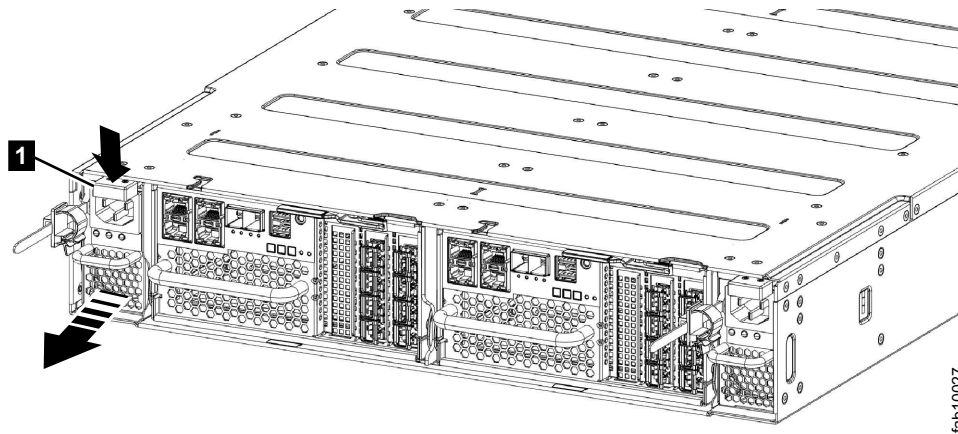

Figure 25. Removing the power supply unit (left side of enclosure)
5. Using the handle, firmly pull the power supply out of the enclosure that is shown in Figure 25 on page 153.